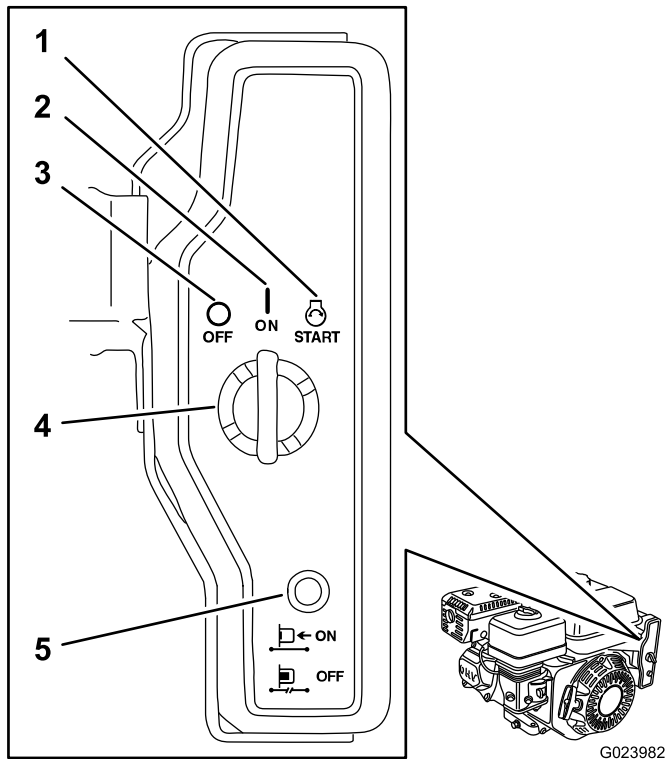

Figure 20
5. Turn the key to the Start position, and hold it there until the engine starts (Figure 20).